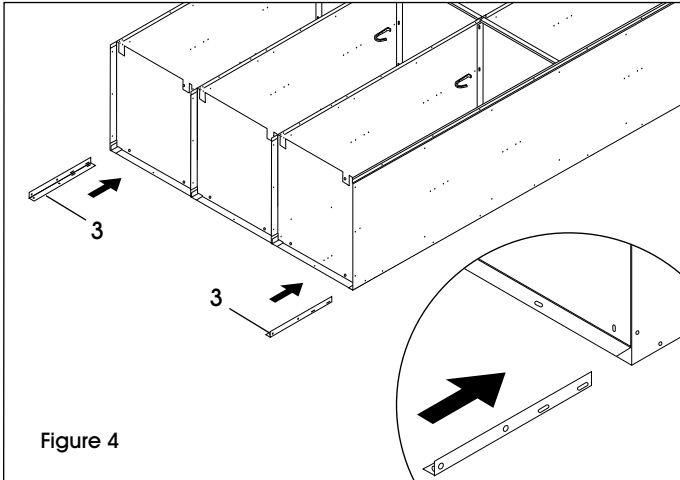

Figure 4
8. Insert rear legs (3) into corners between the bottom and the side. Bolt leg to side using two bolts and nuts per leg. (See Figure 4)